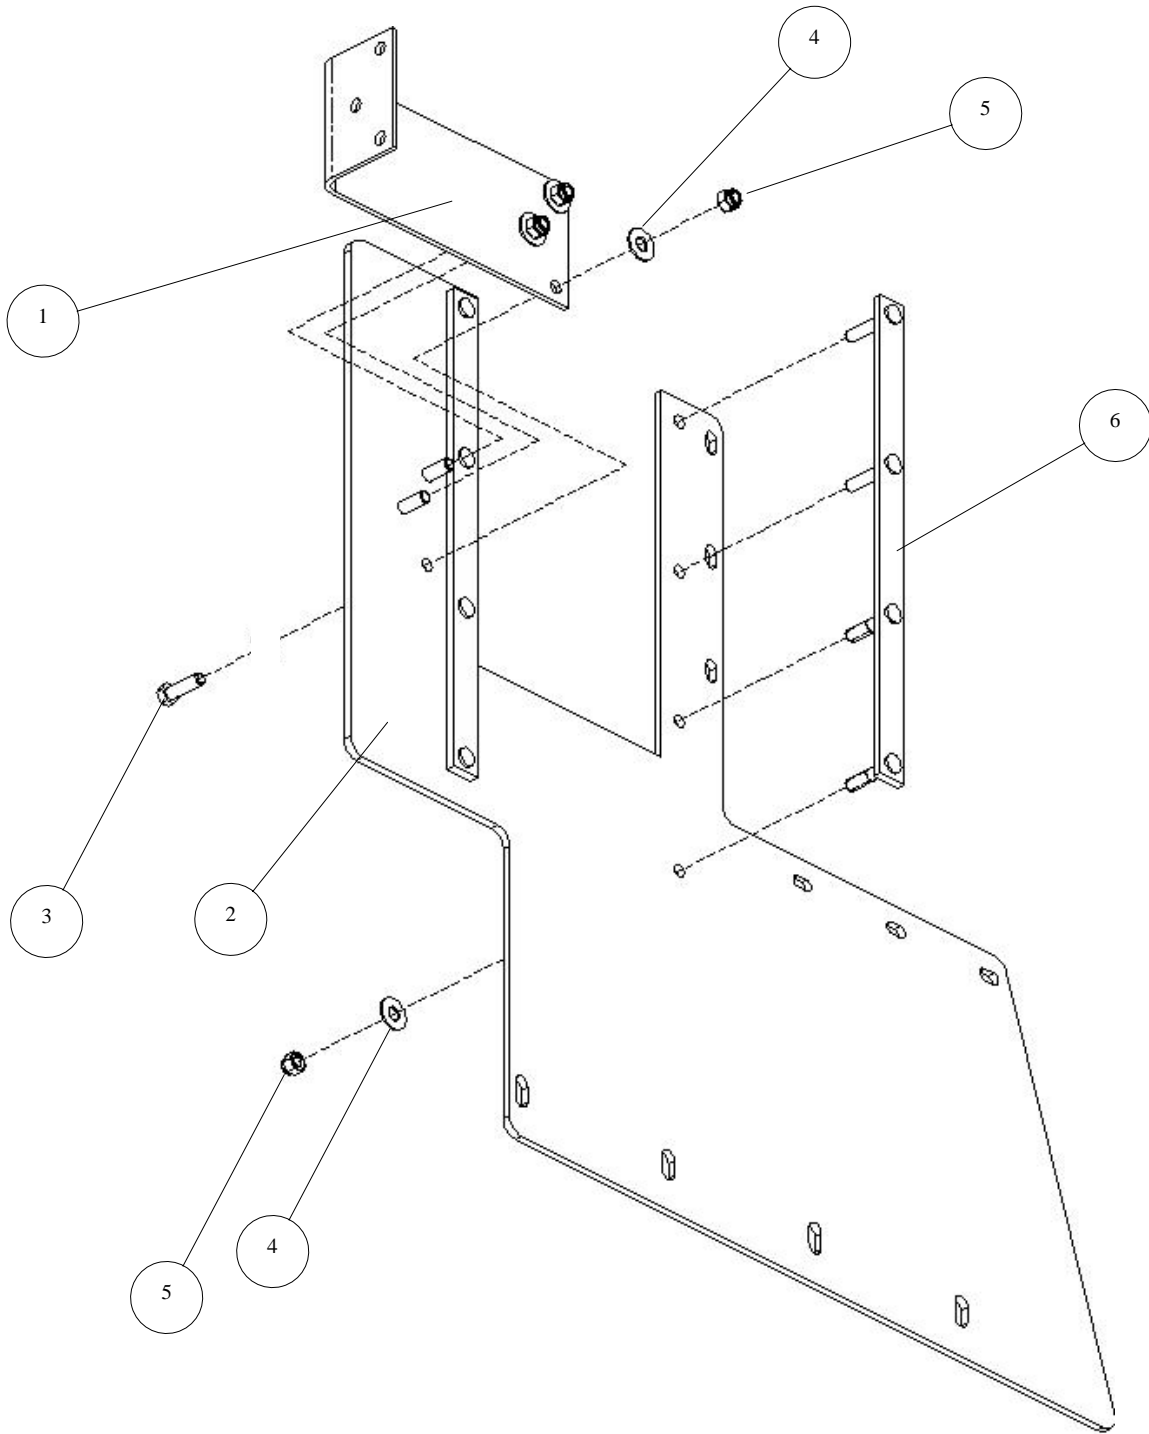

Figure 3-44. Doghouse Right Panel Pre-Assembly.
6. Pre-assemble doghouse right panel assembly as follows (see Figure 3-44):
- a. Install one doghouse forward bracket (1) onto doghouse right panel (2) and secure with three bolts (3), three flat washers (4), and three locknuts (5). Torque locknuts to 35 lb-ft.
- b. Install two stud plates (6) onto doghouse right panel (2) and secure each with only one flat washer (4) and locknut (5) (at the bottom studs as shown). Torque locknut to 23 lb-ft.